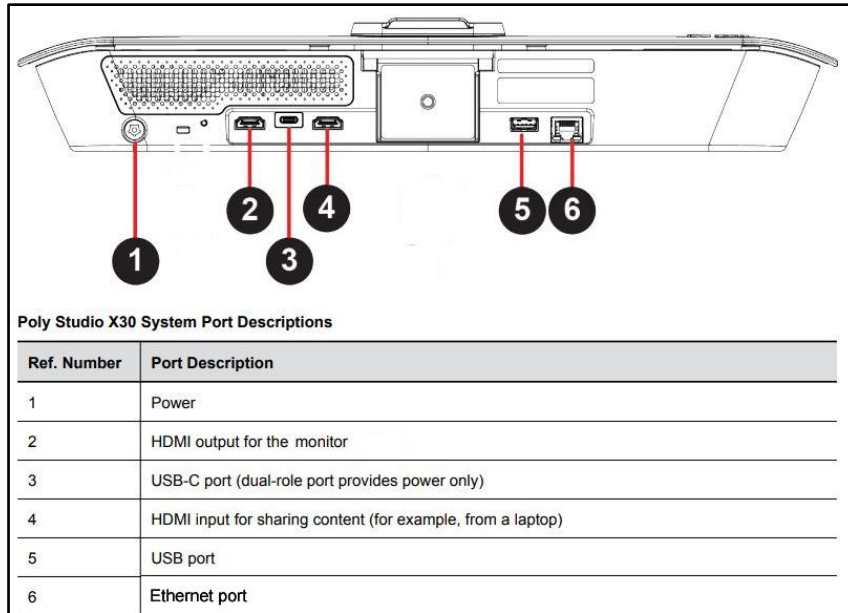

Figure 7. Video System Connections
- Figure 7. Video System Connections 14
4. Connect cables from the top of the unit to the video system as outlined on diagram shown in Figure. 7